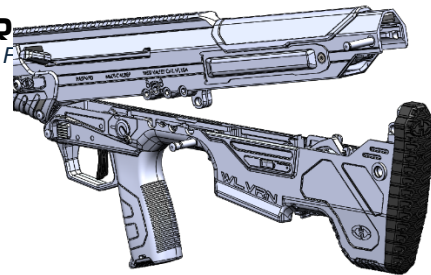

Figure 20: Separate Upper Receiver from Lower Receiver
2. Press the captured rear and middle takedown pins out from the right to the left and tilt the rear of the upper receiver up. (Figure 20)